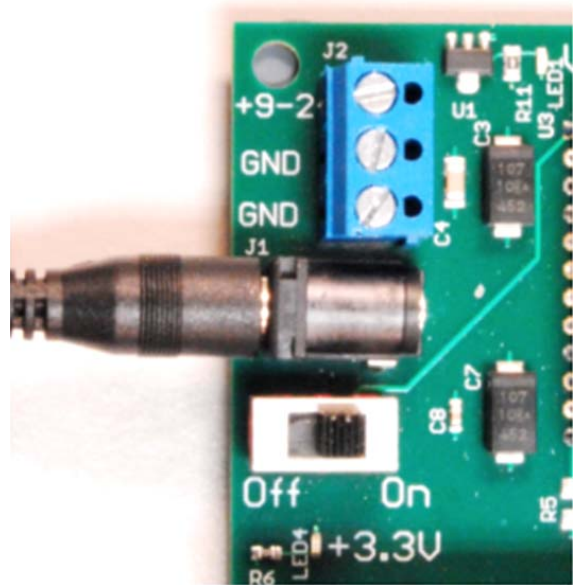

Figure 7. Power-On Switch Location
5. Apply power to the module by turning the network interface module baseboard power switch to the on position, as shown in Figure 7.